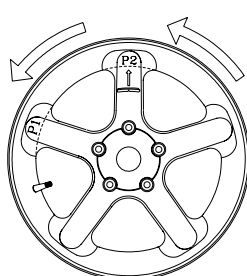

Figure 29d
9. Rotate the wheel to the second or next closest spoke position with P2 on the display and press enter. Figure 29d